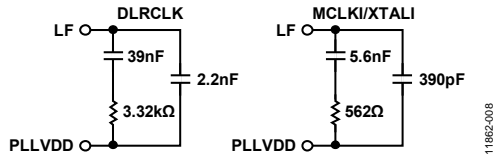
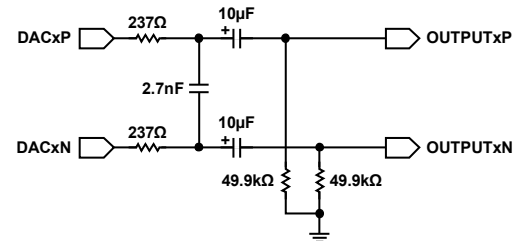
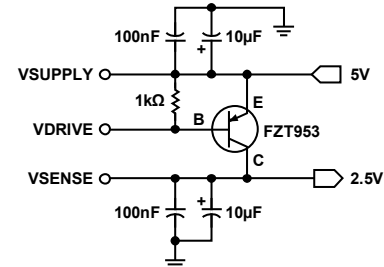
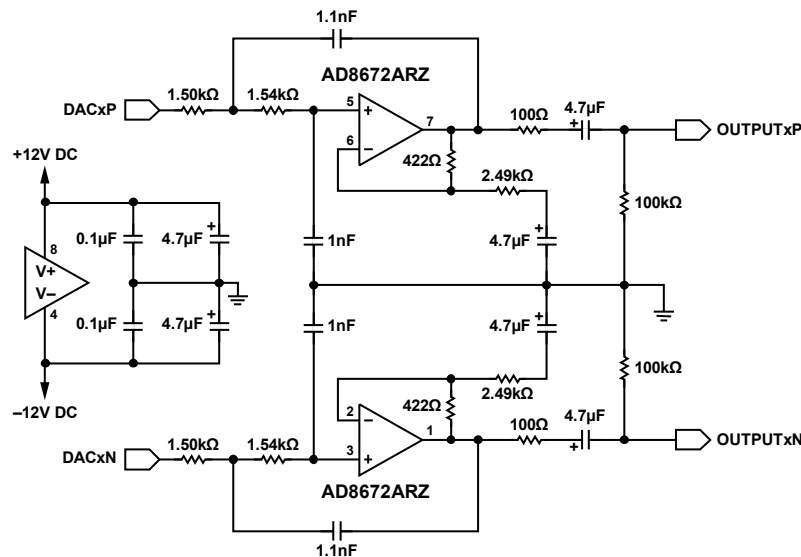

Figure 8. Recommended Loop Filters for DLRCLK and MCLKI/XTALI PLL Reference Modes
Figure 9. Typical DAC Output Passive Filter Circuit (Differential)
Figure 10. Recommended External Regulator Circuit
Figure 11. Typical DAC Output Active Filter Circuit (Differential)
Typical application circuits are shown in Figure 8 to Figure 11. Recommended loop filters for the DLRCLK and MCLKI/XTALI modes of the PLL reference are shown in Figure 8. Output filters for the DAC outputs are shown in Figure 9 and Figure 11, and a recommended external regulator circuit is shown in Figure 10.
The differential analog outputs require a mere single-order, passive differential resistor-capacitor (RC) filter to provide the specified DNR performance (see Figure 9 for an example filter). The outputs can easily drive differential inputs on a separate printed circuit board (PCB) through cabling, as well as differential inputs on the same PCB.
If more signal level is required or if a more robust filter is needed, a single op amp gain stage, designed as a second-order, low-pass Bessel filter, can be used to remove the high frequency out-of-band noise present on each pin of the differential outputs. The choice of components and design of this circuit are critical to obtaining the full DNR yield of the DACs (see the recommended passive and active circuits in Figure 9 and Figure 11). This filter can be built into an active differential amplifier to provide a single-ended output with gain, if necessary. Note that the use of op amps with low slew rate or low bandwidth can cause high frequency noise and tones to fold down into the audio band; exercise care when selecting these components.
The ADAU1962 PLL can also be programmed to run from an external LRCLK without an external master clock. Setting the PLLIN bits in the PLL_CLK_CTRL0 register to 0b01 and connecting the appropriate loop filter to the LF pin (see Figure 8), the ADAU1962 PLL generates all of the necessary internal clocks for operation with no external master clock. This mode reduces the number of high frequency signals in the design, reducing EMI emissions.